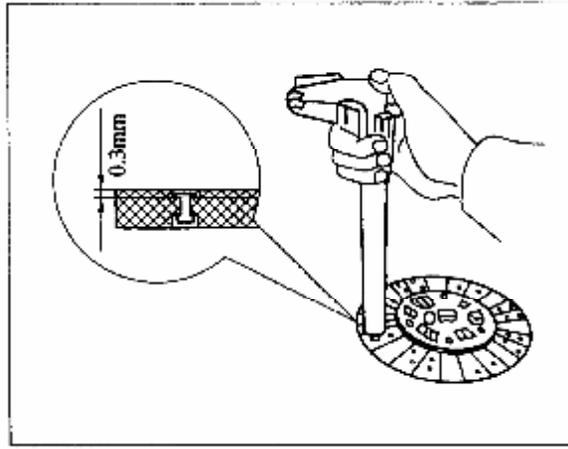

Figure 3-62 Check Driven Plate of Clutch
**3.10.1** Check driven plate of clutch for wear or damage. Measure the depth of rivet head in friction plate. The depth should not be less than 0.3mm, otherwise replace the driven plate (see Figure 3-62).